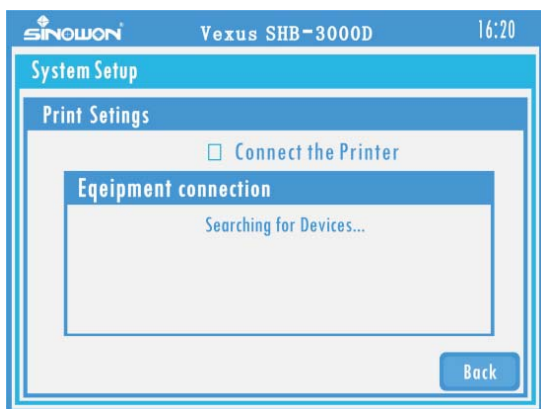

Fig. 6-10
- 2) Click the small box in front of the [connect the printer], start signal search function shown as Fig 6-10.